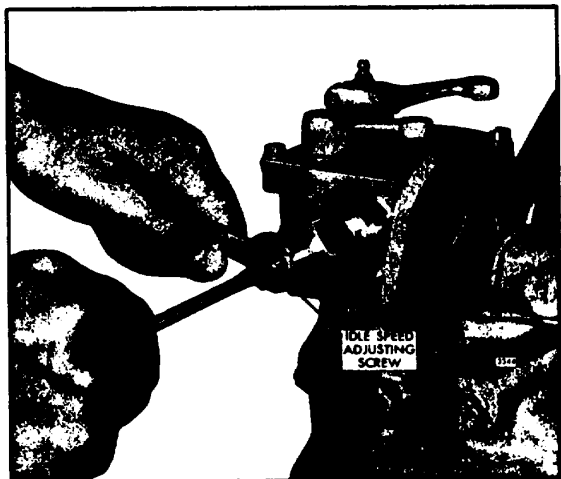
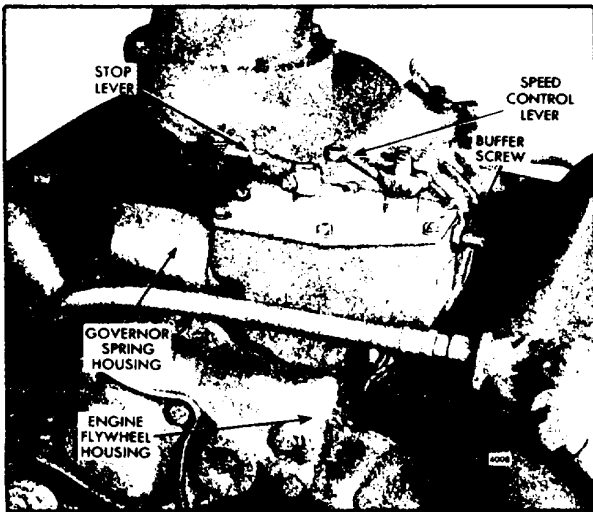

Fig. 7 - Adjusting Engine Idle Speed
Fig. 1 - Limiting Speed Governor Mounting
1. With the engine running at normal operating temperature and with the buffer screw backed out to avoid contact with the differential lever, turn the idle speed adjusting screw (Fig. 7) until the engine is operating at approximately 15 rpm below the recommended idle speed.
The limiting speed mechanical governor is mounted at the rear of the engine, between the flywheel housing and the blower (Fig. 1). The governor is driven by the right blower rotor drive gear. The left blower rotor drive gear is driven by a shaft, that passes through the governor housing, from the engine gear train. There are two types of limiting speed governor assemblies. The difference in the two governors is in the spring mechanism (Fig. 7). One has a long spring mechanism, the other has a short spring mechanism.